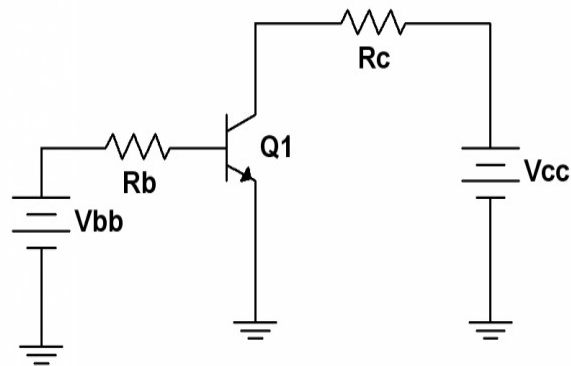

Figure 1
2. Consider the circuit of Figure 1 with $V_{bb} = 11\text{V}$, $V_{cc} = 15\text{V}$, $R_b = 330\text{ k}\Omega$ and $R_c = 1.2\text{ k}\Omega$. Assume $V_{BE} = 0.7\text{ volts}$. Further, assume that beta is 150 (a typical value for this device in this application). Calculate the expected values of I_B , I_C and I_E , and record them in the “Theory” columns of Table 1. Note that the theoretical values will be the same for all three transistors.
4. Build the circuit of Figure 1 with $V_{bb} = 11V$, $V_{cc} = 15V$, $R_b = 330\text{ k}\Omega$ and $R_c = 1.2\text{ k}\Omega$. Measure and record the base, collector and emitter currents, and record them in the first row of Table 1. Find the deviations between the theoretical and experimental currents, and record these in Table 1.
8. One way of improving the circuit of Figure 1 is to redesign it so that a single power supply may be used. As noted previously, the base current is largely dependent on the value of V_{BB} and R_B . If the supply is changed, the resistance can be changed by a similar factor in order to keep the base current constant. This is just an application of Ohm's law. Based on this, determine a new value for R_B that will produce the original I_B if V_{BB} is increased to the V_{CC} value (i.e., a single power supply is used). Record this value in Table 3.